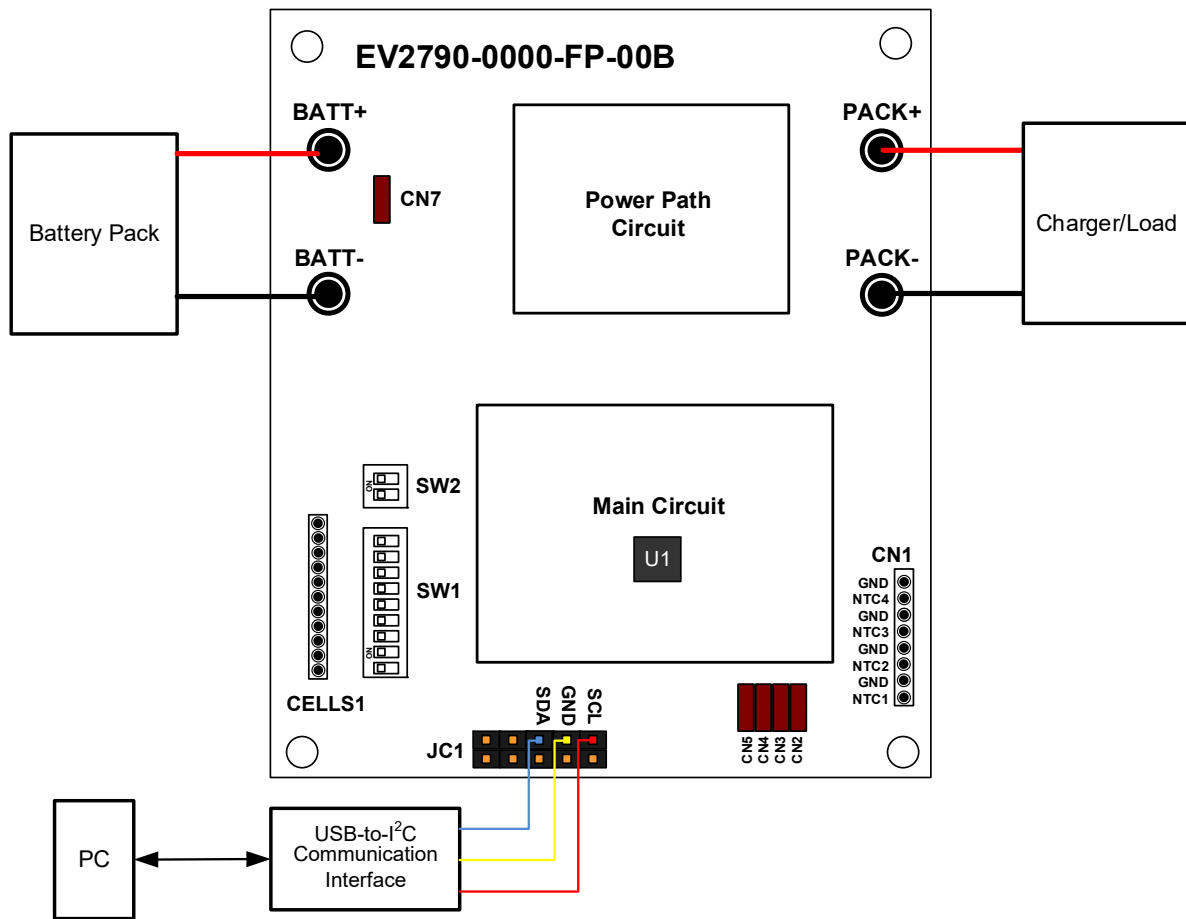

Figure 2: Equipment Set-Up for the MP2790DFP-0000
4. To set up the board using the cell simulator shunt (i.e. without a real battery pack) (see Figure 2 on page 4), follow the steps below: